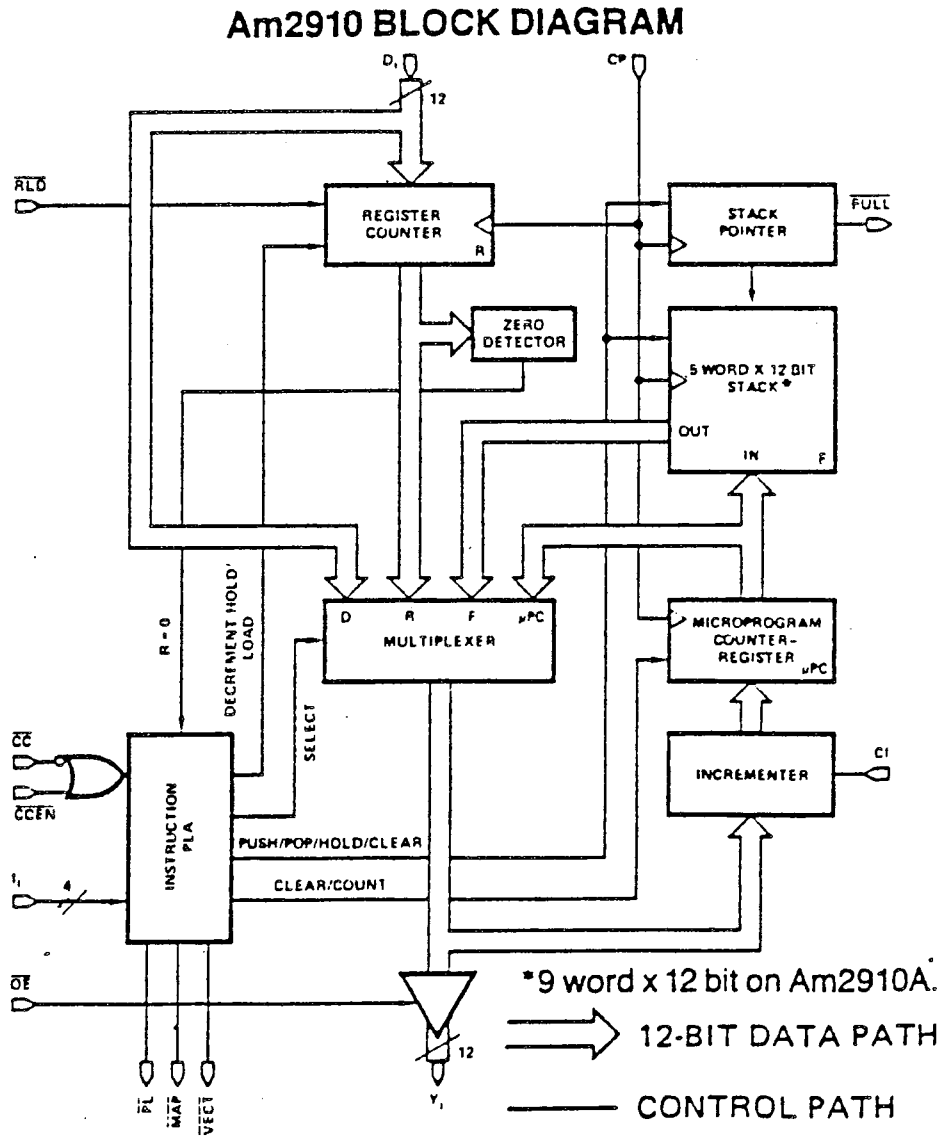

Figure EB-5. Am2910 Structure
- Am2910 sequencer is used. See Figure EB-5.